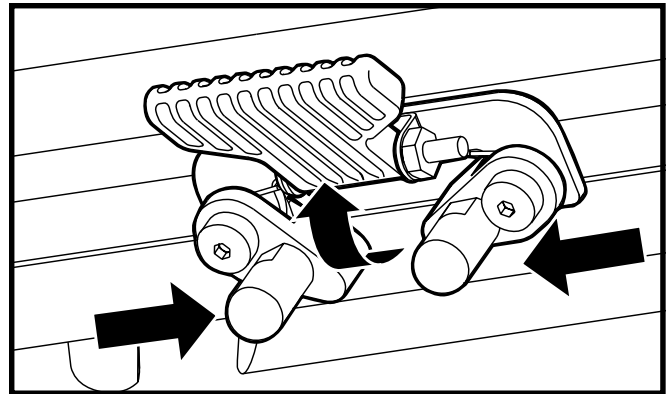

Figure 14. Seat Height Adjustment - Seat Latch Safety
3. Flip up the seat latch safety. See figure 14.